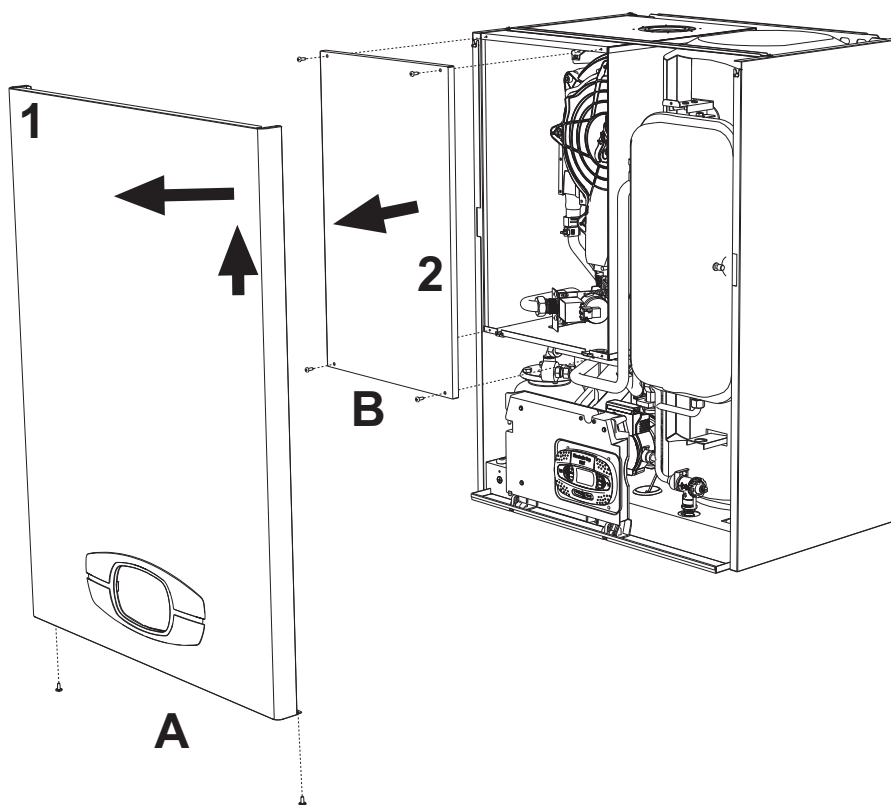

fig. 32- Front panel opening
1. Undo the screws **A** (see fig. 32).
1. Undo the screws **B** (see fig. 32).